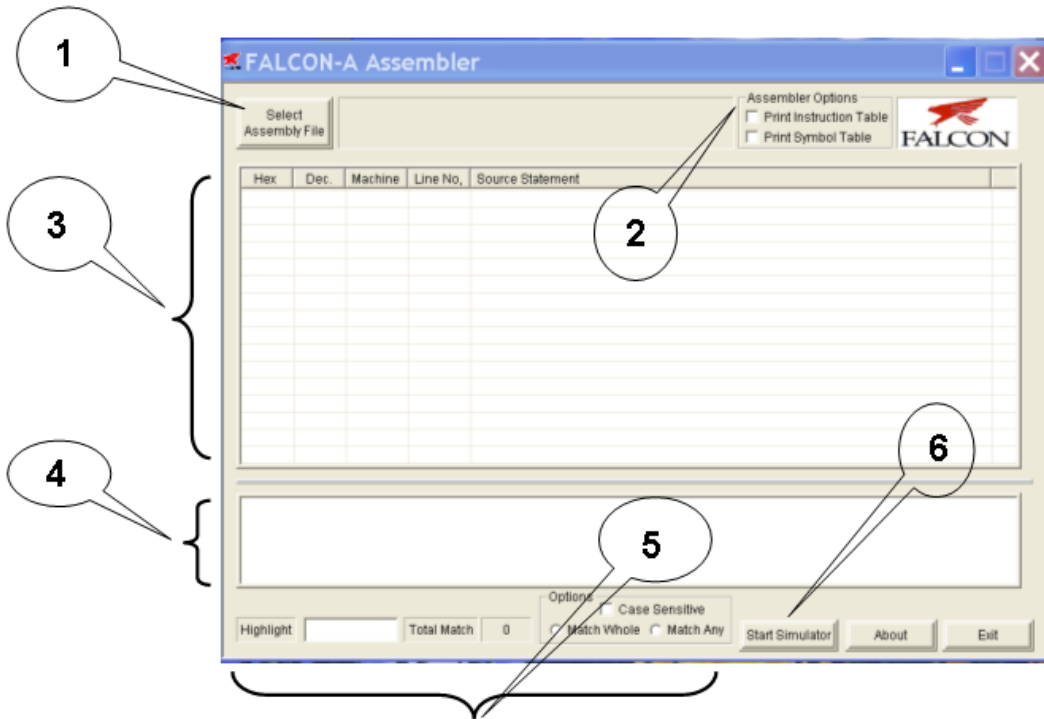

Figure 1
Figure 1 shows a snapshot of the FALCON-A Assembler. This tool loads a FALCON-A assembly file with a (.asmfa) extension and parses it. It shows the parse results in an error log, lets the user view the assembled file's contents in the file listing and also provides the features of printing the machine code, an Instruction Table and a Symbol Table to a FALCON-A listing file. It also allows the user to run the FALCON-A Simulator.
Select Assembly File: Labeled as “1” in Figure 1, this feature enables the user to choose a FALCON-A assembly file and open it for processing by the assembler.
Assembler Options: Labeled as “2” in Figure 1.
List File: Labeled as “3”, in Figure 1, the List File feature gives a detailed insight of the FALCON-A listing file, which is produced as a result of the execution of the 1st and 2nd-pass. It shows the Program Counter value in hexadecimal and decimal formats along with the machine code generated for every line of assembly code. These values are printed when the 2nd-pass is completed.
Error Log: The Error Log is labeled as “4” in Figure 1. It informs the user about the errors and their respective details, which occurs in any of the passes of the assembler.
Search: Search is labeled as “5” in Figure 1 and helps the user to search for a certain input with the options of searching with “**match whole**” and “**match any**” parts of the string. The search also has the option of checking with/without considering “**case-sensitivity**”. It searches the List File area and highlights the search results using the yellow color. It also indicates the total number of matches found.
Start Simulator: This feature is labeled as “6” in Figure 1. The FALCON-A Simulator is run using the FALCON-A Assembler’s Start Simulator option. The FALCON-A Simulator is invoked by the user from the FALCON-A Assembler. Its features are detailed as follows:
- To start FALSIM (the FALCON-A assembler and simulator), double click on the FALSIM icon. This will display the assembler window, as shown in the Figure 1.